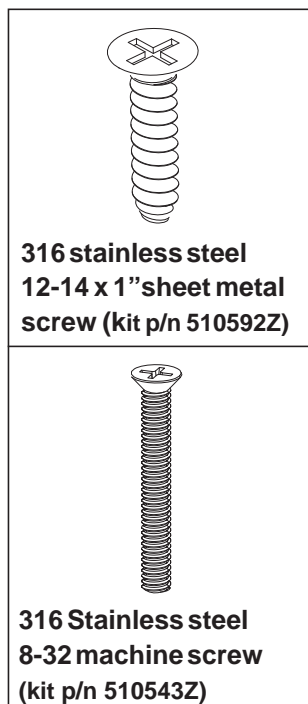

Figure 1
- Install a gasket under and on top of the vinyl liner. Align the gasket and face ring screw holes. Secure the face ring on the top gasket with the eight (8) 316 12-14 x 1" sheet metal self-tapping screws (provided), see Fig. 1. Using a No. 2 Philips head screwdriver, tighten each retaining screw to a **torque value of 10.00 (minimum) to 15.0 (maximum) in-lbs** to secure the face ring and gaskets on the sump. DO NOT OVER TIGHTEN THE SCREWS. DO NOT ASSEMBLE WITH POWER TOOLS.
⚠ WARNING ONLY USE THE 316 STAINLESS STEEL 8-32 MACHINE SCREWS (SEE FIG. 1) PROVIDED. SUBSTITUTE SCREWS SUCH AS MASONRY SCREWS, SHEET ROCK SCREWS OR OTHER TYPES OF SCREWS SHOULD NEVER BE USED, WILL CAUSE THE COVER TO COME LOOSE AND COULD RESULT IN LIMB OR BODY ENTRAPMENT, HAIR ENTANGLEMENT OR EVISCERATION/DISEMBOWELMENT.